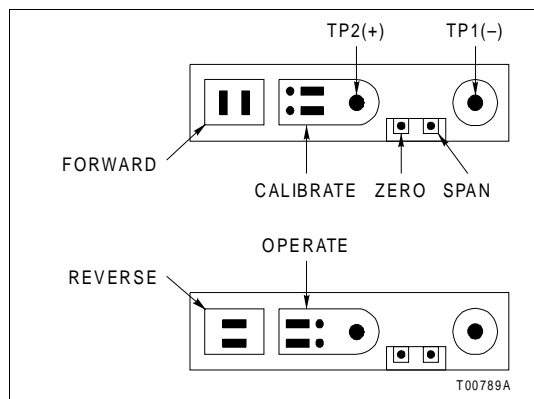

Figure A-4. Location of Calibration Features for 4 to 20 mA Position Transmitter
1. Remove the FOR/REV jumpers, and place the CAL/OPER jumpers in the calibrate (CAL) position (Fig. A-4).
4. Place the CAL/OPER jumpers into the operate (OPER) position (Fig. A-4). If a direct-acting cam is being used, place the FOR/REV jumpers in the FOR position. For a reverse action cam, place these jumpers in the REV position (Fig. A-4).
6. Adjust the ZERO potentiometer to 4.00 mA. See Figure A-4 for the location of the zero potentiometer.
7. Move the actuator to the 100% position. Adjust the SPAN potentiometer to 20.00 mA. See Figure A-4 for the location of the SPAN potentiometer.